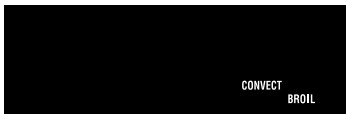

Fig. 1
1. Press convect key 3 times.	convect
2. Press start (See Fig. 1).	start